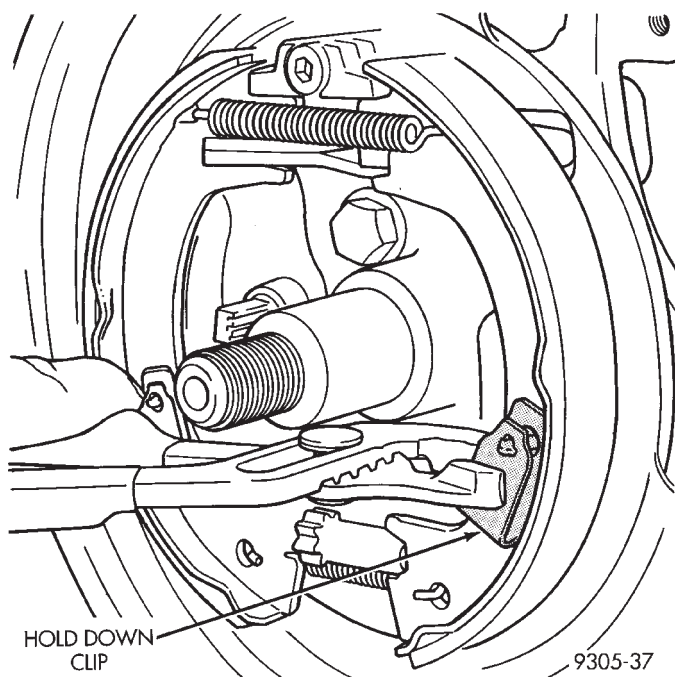

Fig. 1 Removing Rear Brake Shoe Hold-Down Clip
- (1) Remove rear disc brake caliper assembly from adapter and braking disc (See Disc Brake Shoe Removal).
- (2) Remove rear braking disc from rear hub (See Removing Braking Disk).
- (3) Remove dust cap from rear hub. Remove cotter pin and nut lock from rear spindle.
- (4) Remove rear hub and bearing assembly retaining nut and washer.
- (5) Remove rear hub and bearing assembly from rear spindle.
- (6) Remove rear brake shoe assembly hold down clip (Fig. 1).